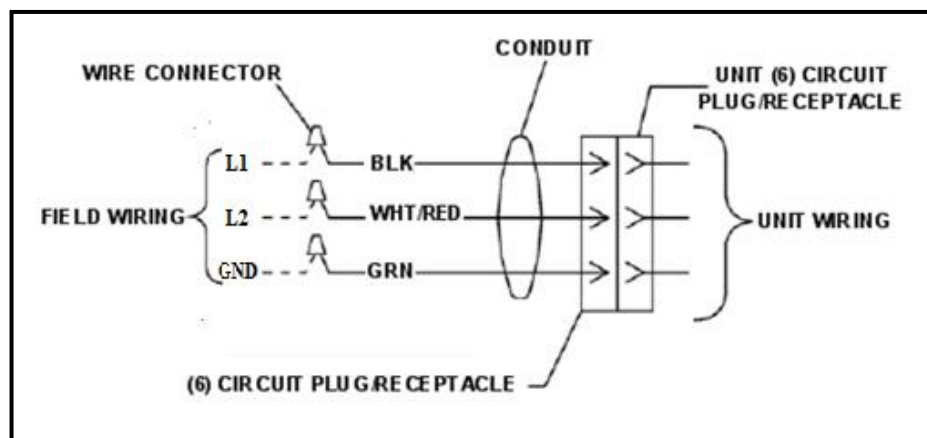

Fig. 7 - Hardwire Assembly
- Connect the Hardwire assembly wires to power source. Make connections with properly sized butt splices or wire nuts (field supplied). See Fig. 7.
- Place tabs over top rail (1).
- Push Inward at bottom until panel snaps into place (2).